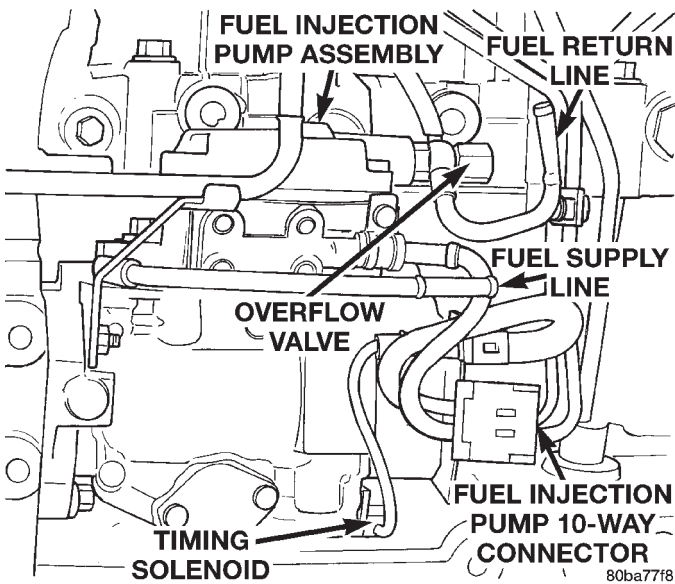

Fig. 22 Overflow Valve
(1) If the fuel injection pump has been replaced, air should be bled at the overflow valve before attempting to start engine.
- (a) Loosen the overflow valve (Fig. 22) at the rear of the injection pump.